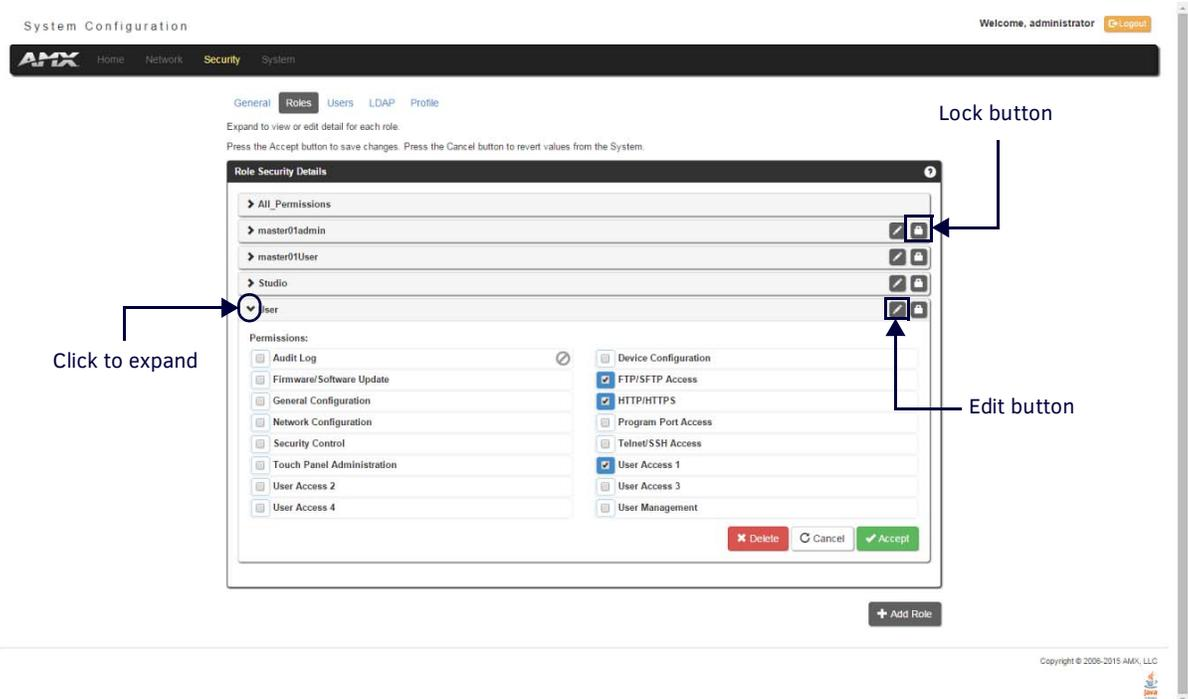

FIG. 42 Role Security Details Page
Click any Role listed on the *Role Security Details* page to expand the view to show details for the selected user Role (FIG. 42):
2. Click the **Edit** button (see FIG. 42) for any Role listed on the *Role Security Details* page to expand the view to show details for the selected Role.
2. Click the **Lock** button (see FIG. 42) for any Role listed on the *Role Security Details* page to lock and disable the Role. Click the Lock button again to unlock and enable the Role